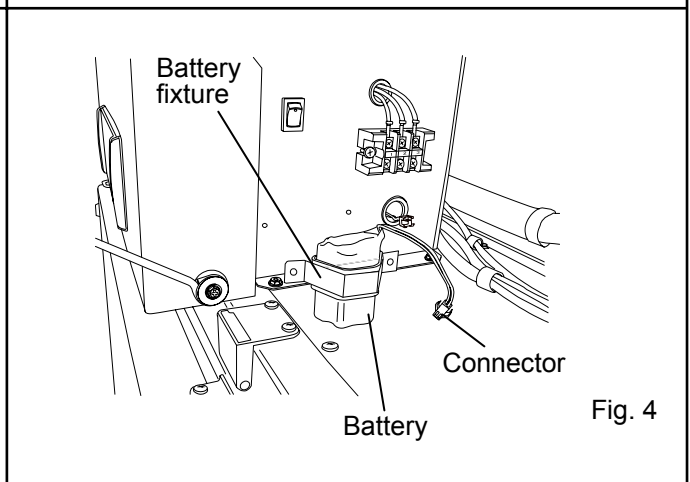

Fig. 4
4. Disconnect the connector and take out the battery. (Fig. 4)